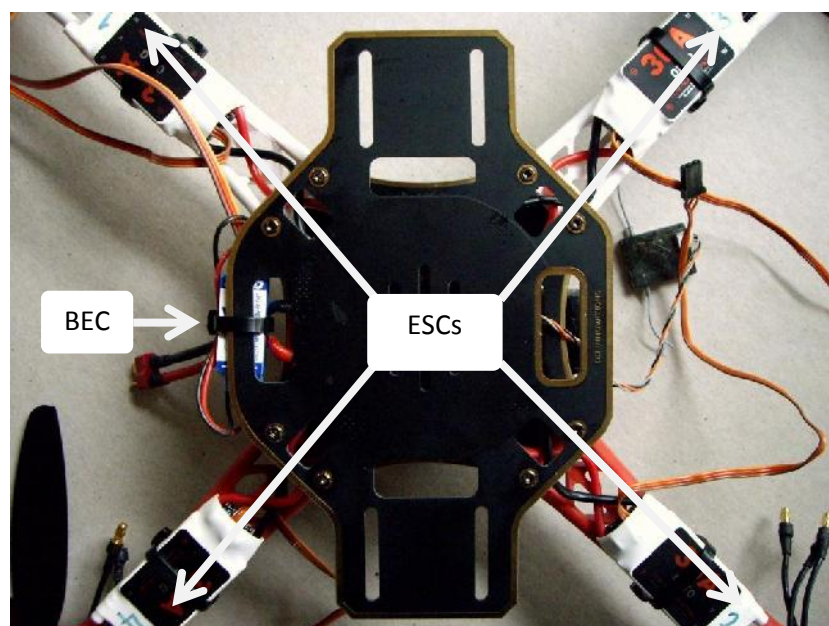

Figure 2 – Unassembled quad showing ESCs numbered 1 thru 4 and BEC strapped to bottom plate
- All ESCs should also be numbered for rapid repairs and maintenance as per Figure 2.